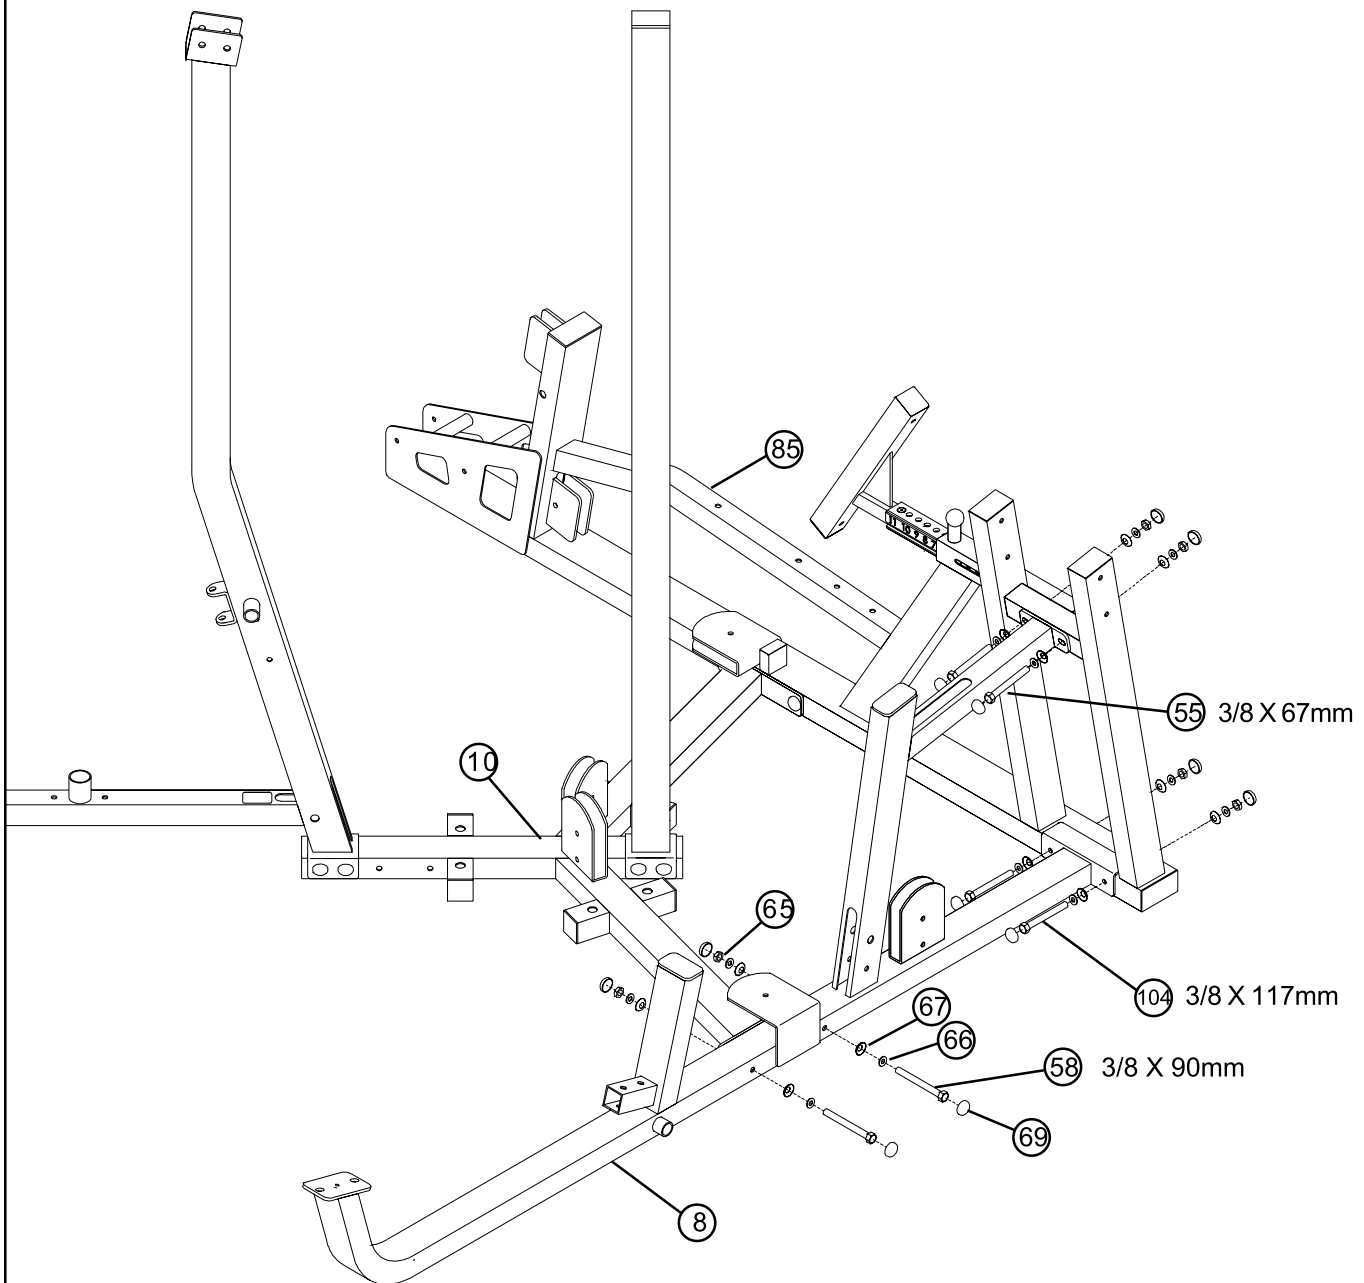

FIGURE 4
- **LOOSELY** assemble the MULTI PRESS FRAME (8) to the LEG PRESS FRAME (85) using eight RH CAPS (69), two 3/8 X 117mm BOLTS (104), two 3/8 X 67mm BOLTS (55), eight 3/8" SAE WASHERS (66), eight 3/8" RH WASHERS (67) and four 3/8" LOW HEIGHT LOCK NUTS (65) as shown in FIGURE 4. **(NOTE: The two 3/8 X 117mm BOLTS (104) for this step are in the LEG PRESS hardware bag.)**
- **LOOSELY** assemble the MULTI PRESS FRAME (8) to TOWER BASE (10) using four RH CAPS (69), two 3/8 X 90mm BOLTS (58), four 3/8" SAE WASHERS (66), four 3/8" RH WASHERS (67) and two 3/8" LOW HEIGHT LOCK NUTS (65) as shown in FIGURE 4.